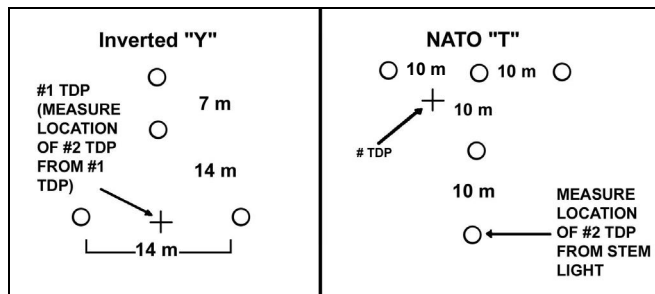

Figure 4-14. Placement of the Inverted "Y" or NATO "T" at the Number One Touchdown Point.
b. Regardless of the type lighting device used, pathfinders identify the touchdown point with at least two lights. At night, they can designate different helicopter sites with lights of different colors. They may also use different colors to separate flights within a larger formation. A lighted (inverted) "Y" indicates the landing point of the lead helicopter (Figure 4-14, page 4-22).